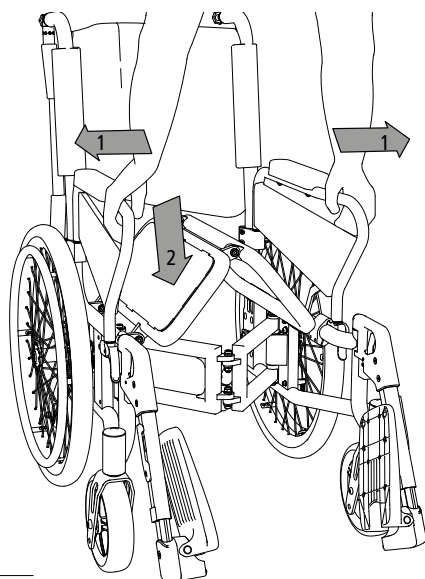

Fig. 2
1. Stand in front of the wheelchair, hold on to the side tubes at the front and push them apart. (1, Fig. 2).
2. Press one of the seat pads down with the palm of your hand in the front area (2, Fig.2) until the wheelchair is fully unfolded.